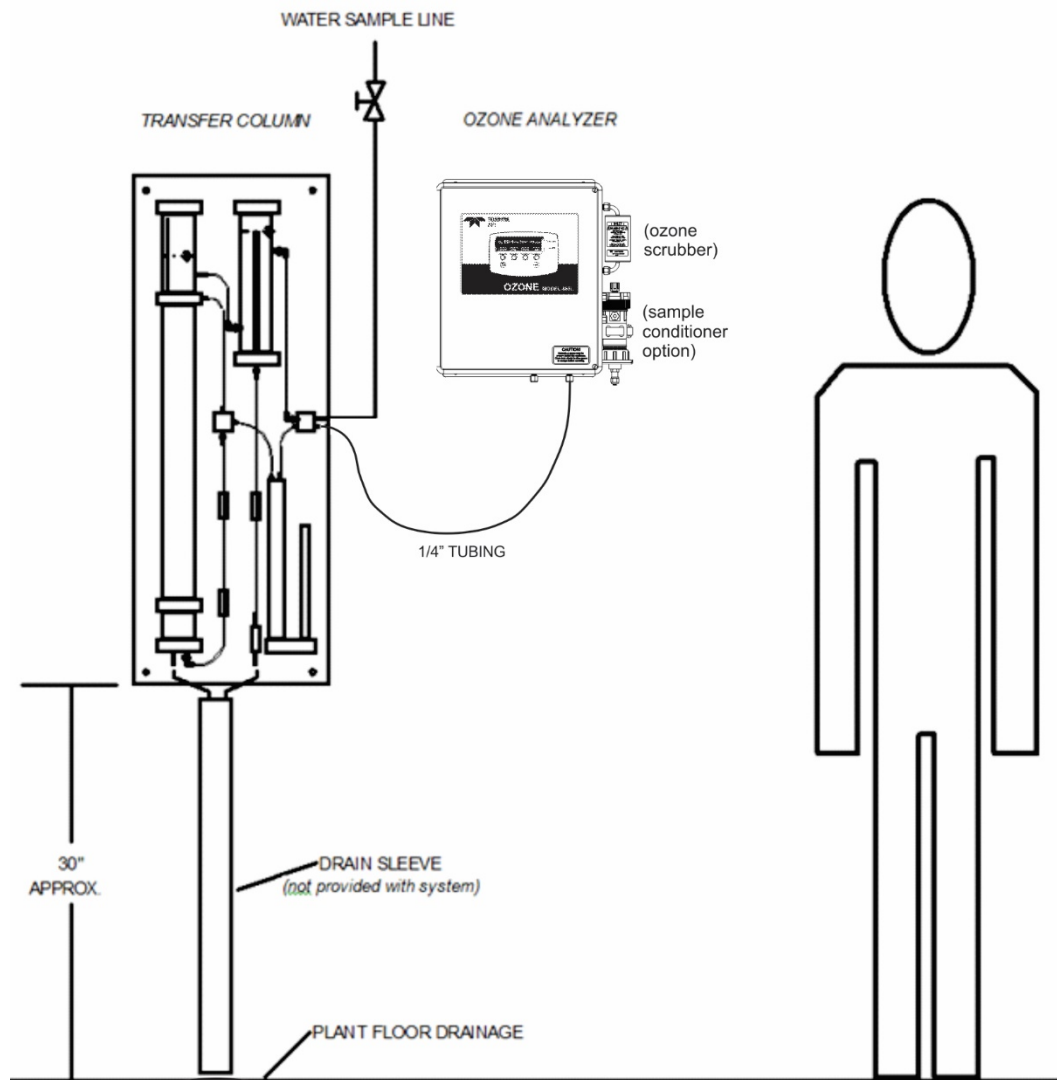
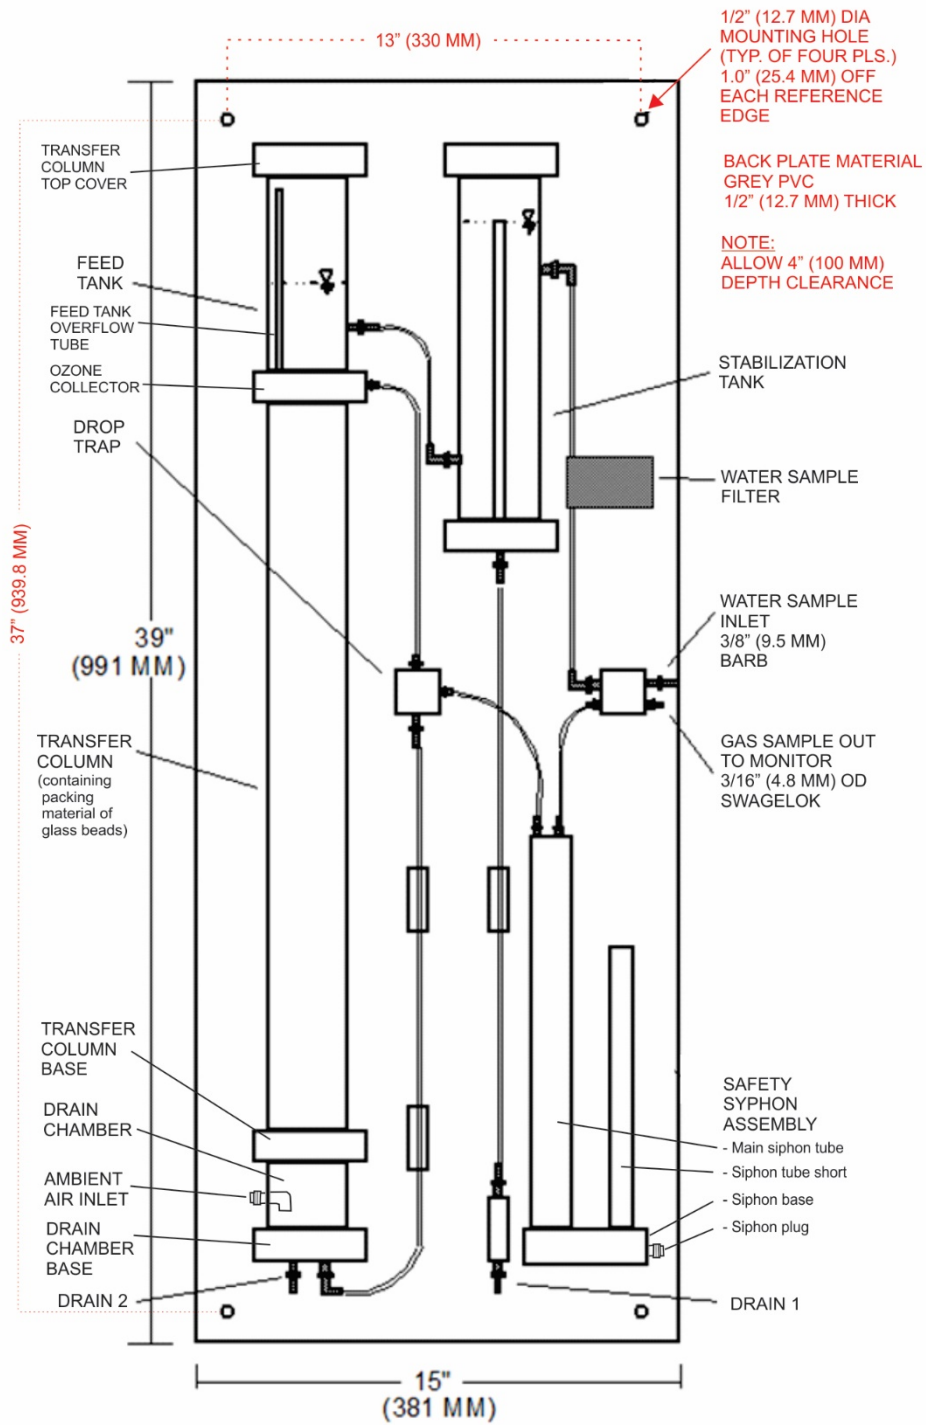
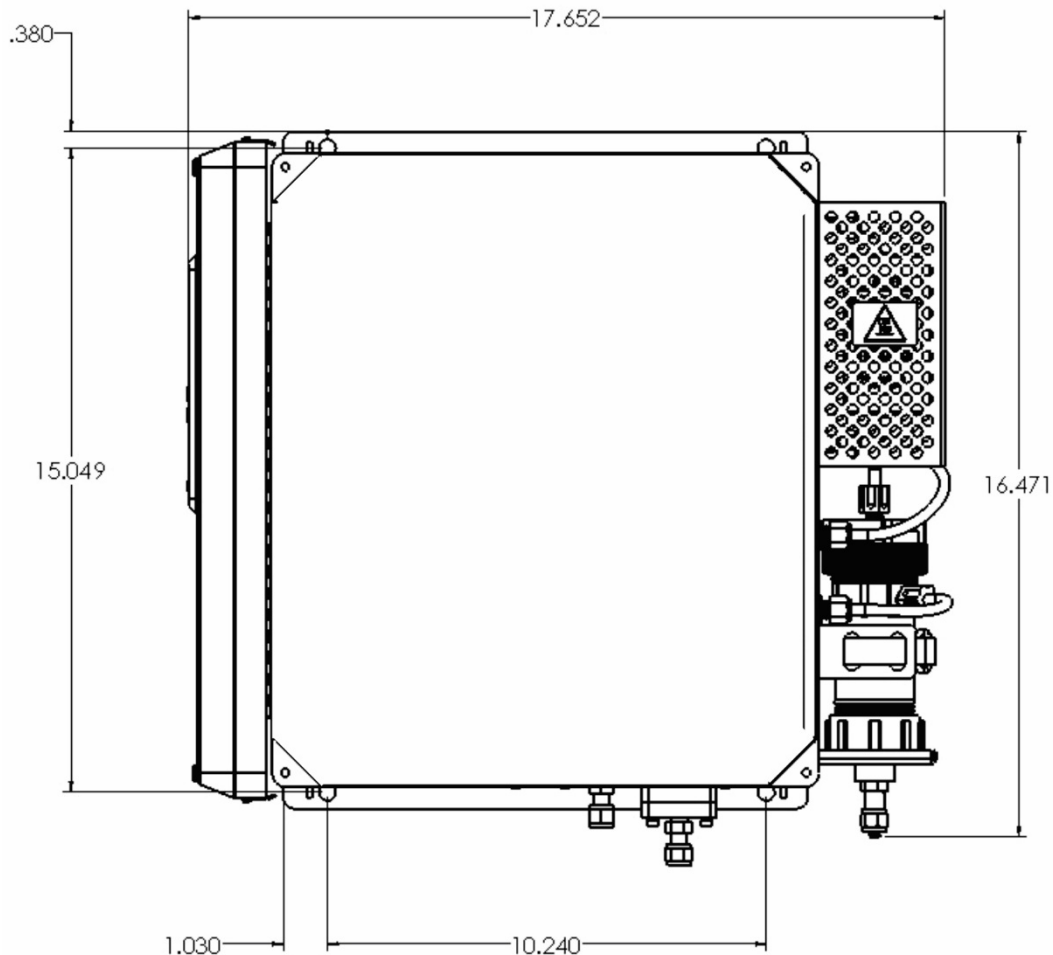

Figure 2-1. Water Transfer Column and Ozone Monitor Setup
Figure 2-2. Water Transfer Column Mounting Hole Locations and Dimensions
Figure 2-4. Ozone Monitor Mounting Hole Locations and Dimensions
The transfer column and the monitor are wall mounted, as diagram shows in Figure 2-1. The display of the monitor should be at eye level. The top of the column should be level with the top of the monitor. The column and the monitor should be installed vertically and within 5 feet of each other.
Column installation is illustrated in Figure 2-1, and mounting hole locations and dimensions are shown in Figure 2-2.
Ozone monitor installation is illustrated in Figure 2-1, and mounting hole locations and dimensions for NEMA 4X enclosure are shown in Figure 2-4.
4. Connect the Gas Sample Tube (supplied with the monitor) from the column at the Gas Sample Out fitting (refer to Figure 2-2) to the ozone monitor's inlet port (see Figure 2-1, and refer to the ozone monitor's manual).
Refer to Figure 2-2 for labeled parts while following these instructions.